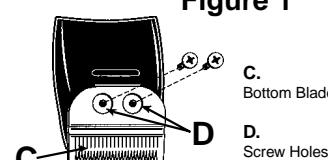

Figure 1
**To remove:** Unplug clipper from electrical outlet. Turn clipper upside down. Unscrew clipping head screws and remove blade (Figure 1).